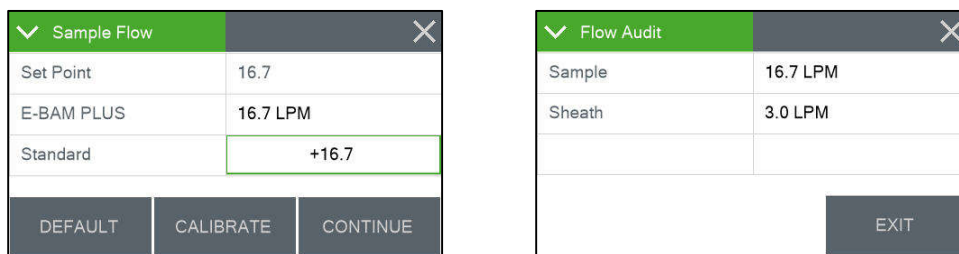

Figure 6-15 Main Sample Air Calibration and Final Review Screens
To audit the flow system without performing any calibrations, use the CONTINUE button to advance through the various screens explained below and view the parameters without making any changes. For the flow, skip to the final review display (see Figure 6-15). Allow the E-BAM PLUS time to stabilize the flow rate, then compare the E-BAM PLUS flow readings to your traceable standard and record the results. If the audit device flow and the E-BAM PLUS flow differ by 4% (about 0.67 lpm) or more, then a full flow calibration must be performed. Most agencies adopt tighter standards and Met One Instruments recommends that the flow be maintained within ±0.2 lpm.
25. Press the grey CONTINUE key to proceed to the sample air flow calibration (see Figure 6-15).
29. Press the CONTINUE key to continue on to the flow review screen shown in Figure 6-15. The final screen shows the current measured values for the sample (INLET) and sheath air flows.